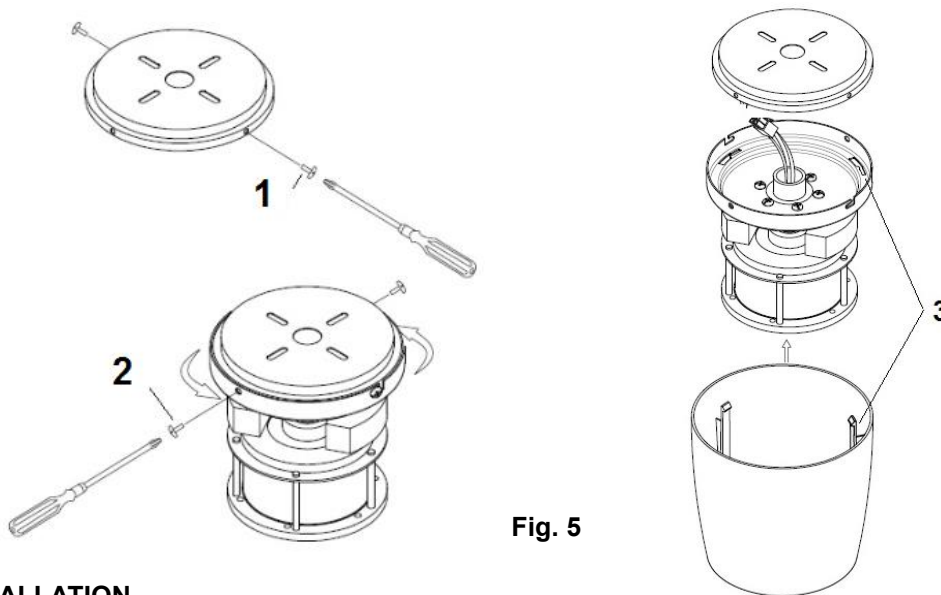

Fig. 5
- Loosen 2 screws (2) from the mounting bracket. Fig. 5
- Loosen 2 screws (1) by half thread from the mounting bracket. Fig. 5
- Lift the hanging plate of the fan assembly up to the mounting bracket and let the L-shape slot on the hanging plate go through the screws (1) on the mounting bracket. Turn the hanging plate until it locks in place at the end section of the L-shape slot and secure it by tightening the two screws (2). Avoid damaging the electrical wiring prepared previously.
- Finally attach the motor housing to the hanging plate and secure it by pushing the hooks (3) into the slot holes and turn it anti clockwise.